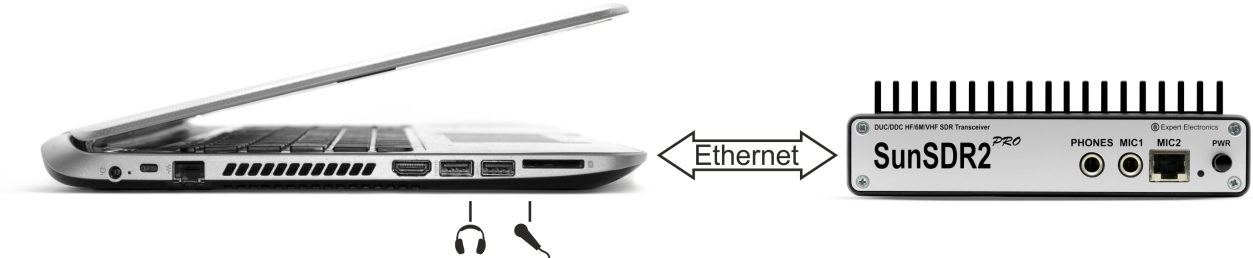

Figure 4.1 – Connecting headphones and microphone when work remotely
1. Connect the headphones and microphone or the PC headset to the sound card of the PC (see figure 4.1);